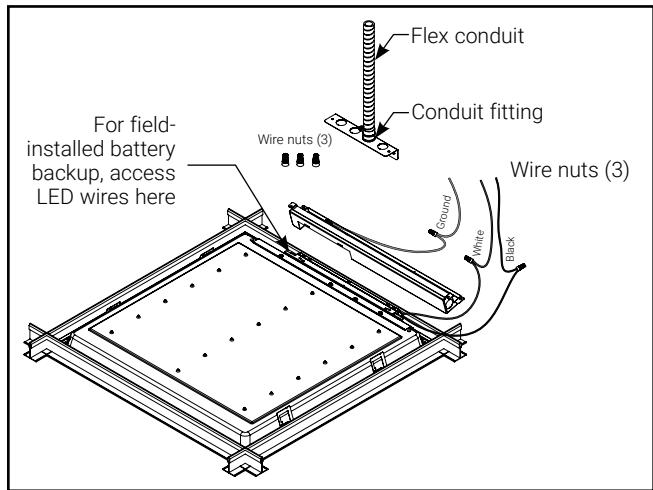

Figure 5.
- Bend screw tabs 90 degrees from grid clip and then 90 degrees toward T-GRID frame. Use the three provided wire nuts to attach the ground wire to the ground supply wire, the black (line) wire to the black supply wire, and the white (neutral) wire to the white supply wire (Fig. 5).
NOTE: This fixture is compatible with battery backup systems including the Surelites EBLED7W and EBLED14W. If using a compatible field-installed battery backup system, remove driver cover plate to access LED load wires and follow battery backup wiring instructions (Fig. 5). Ensure driver cover plate is reinstalled after wiring.